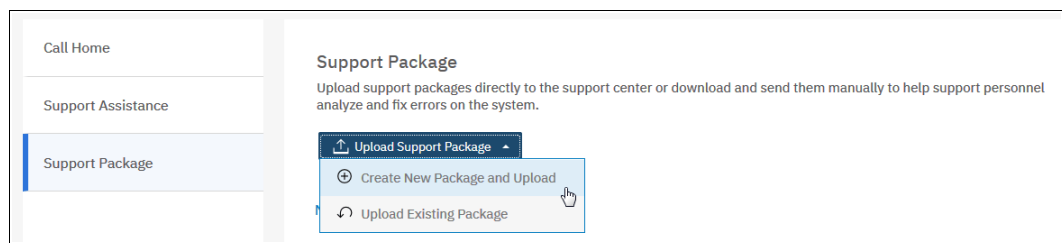

Figure 12-118 Create and Upload Support package
13. When you click **Upload Support Package**, the selection window opens, as shown in Figure 12-118. Here, you can choose to create a package or upload a package.